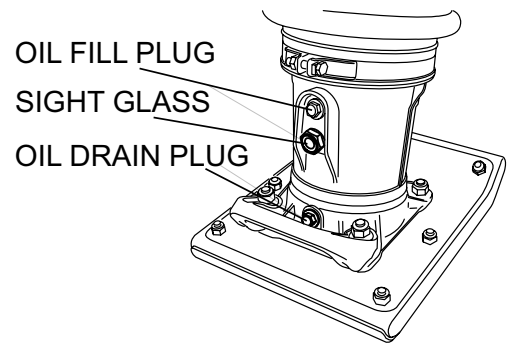

Figure 14. Oil Drain Plug
- Remove the oil drain plug on foot housing (Figure 14) and drain the oil. Refill with approximately 0.69 qt. (0.65